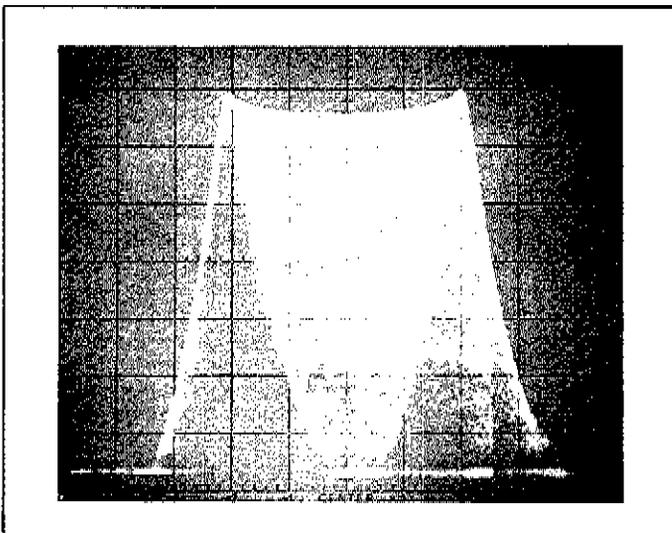

Figure 3-4. Frequency Modulation (FM) Output
h. Connect the RF Section OUTPUT to the Spectrum Analyzer RF input and verify the display is similar to that of Figure 3-4.
j. Change the Spectrum Analyzer controls as follows: bandwidth, 10 kHz; scan width per division, 0.05 MHz. Verify the display is similar to Figure 3-4.
l. Change the Spectrum Analyzer controls as follows: bandwidth, 1 kHz; and scan width per division, 5 kHz. Verify the display is similar to Figure 3-4.